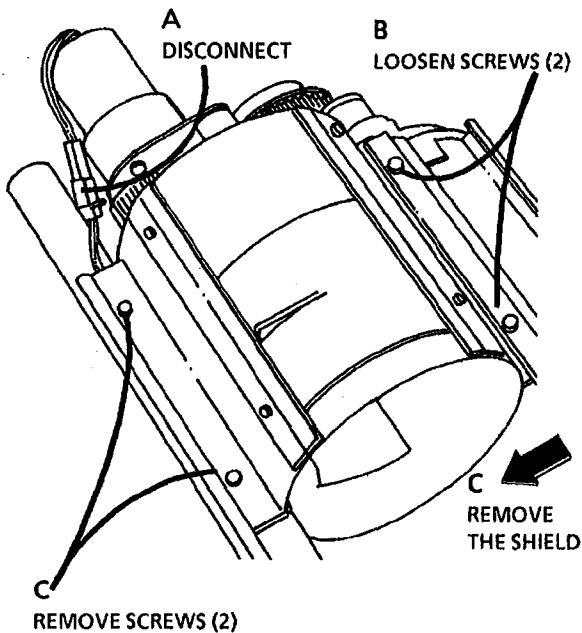

Figure 1. Remove the Top Shield
3. (Figure 1): Remove the Top Shield.